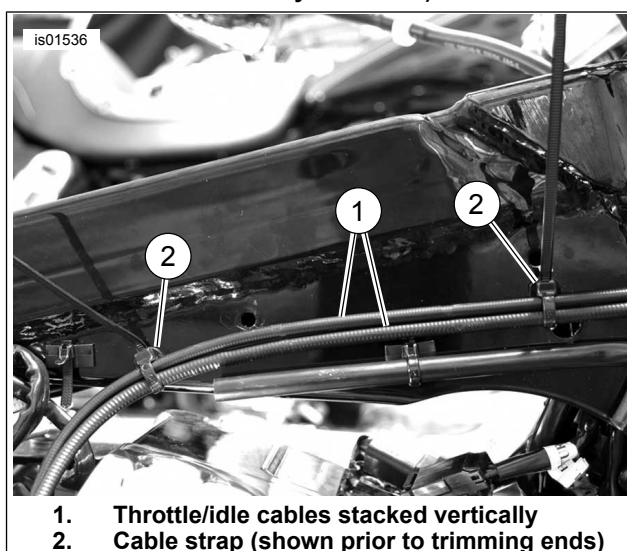

Figure 10. Cable Routing (All Dyna Models)
2. **All Models:** See Figure 10. Orient the cable straps as shown, with the cable strap loop oriented downward. Stack the cables vertically as shown and tighten the cable straps.